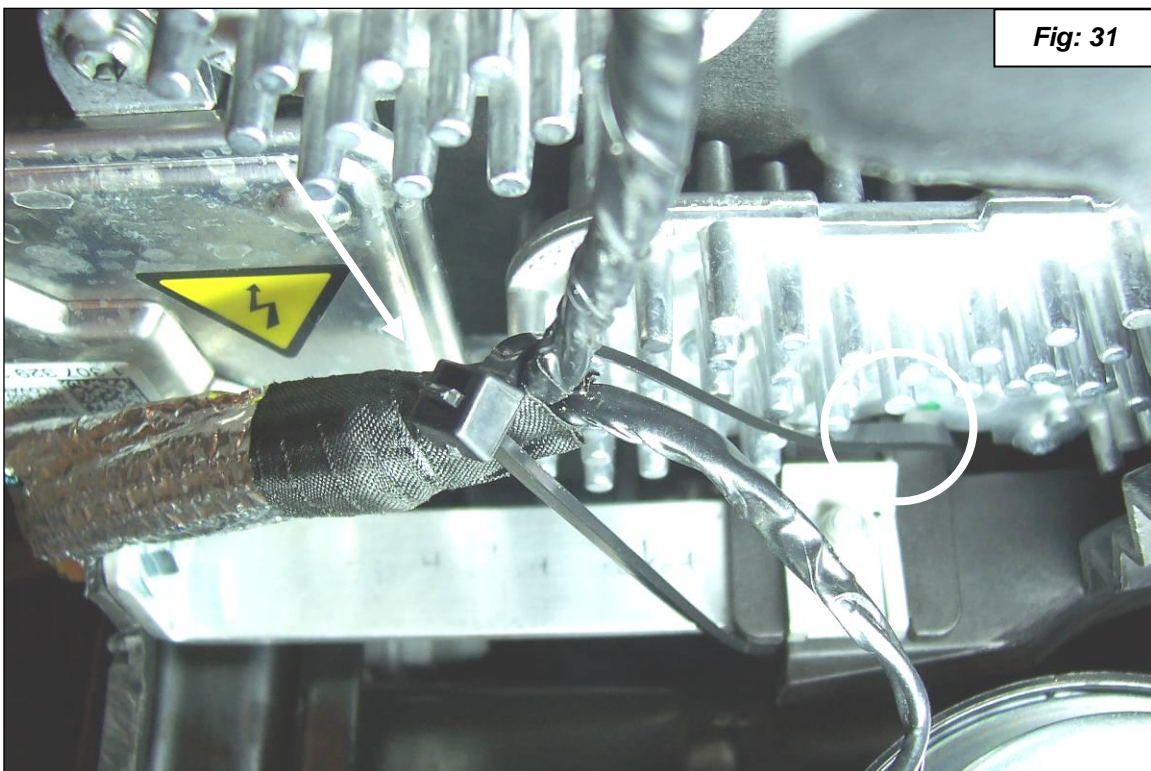

Fig: 31
31. Use the 11" wire tie to pull the wire harness forward and inward **as shown in figure 31**. You can insert the wire tie tip into the small slot that is just forward and above the forward mounting bolt for the Support Bracket. See the circled spot below. Moving the harness protects it from the Oil Cooler Frame and the upper edge of the Air Duct Assy.